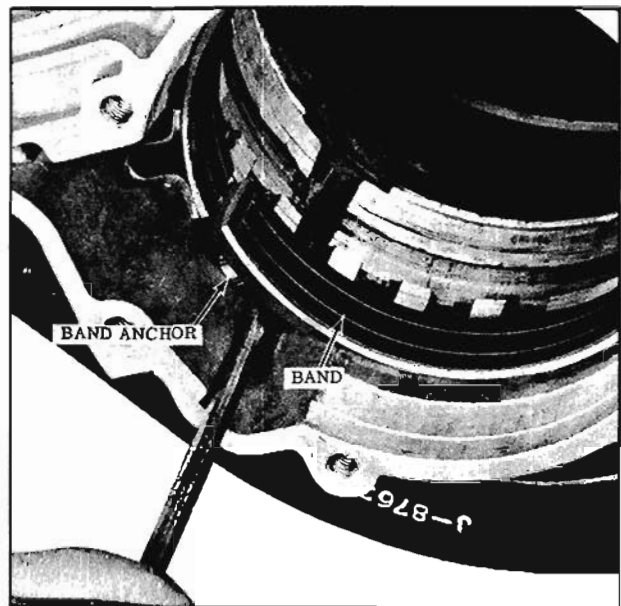

Fig. 6-48 Removing Overrun Band
17. Unhook the band from the anchor and lift upwards to remove. (Fig. 6-48)